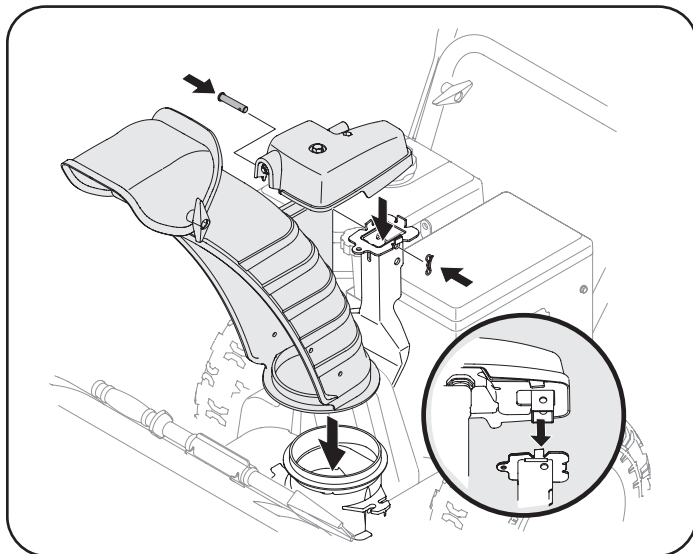

Figure 14
2. Place chute assembly onto chute base and secure chute control head to chute support bracket with clevis pin and cotter pin removed in Step 1. See Figure 14.